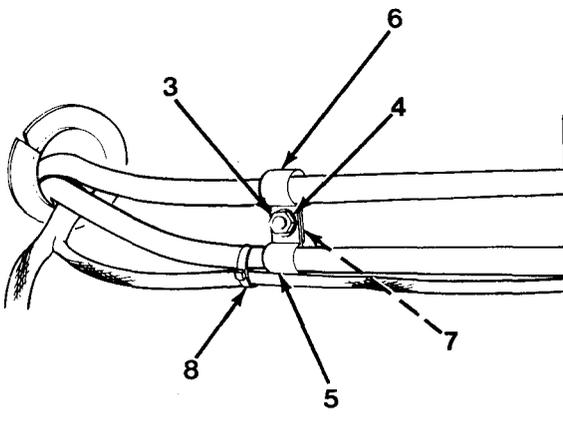

Figure 7-2
3. Remove two nuts (3), washers (4), clamps (5) and (6), two washers (7) and three plastic ties (8, Figure 7-2).